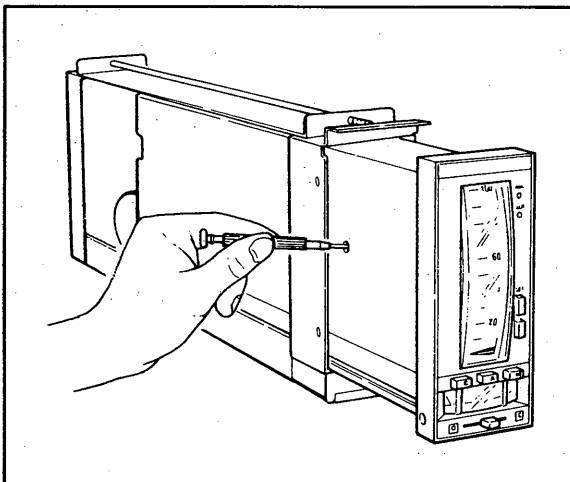

Figure 6-1. Zero Adjustment of Measurement Value Indicator.
- (1) Apply a voltage of 3.0 VDC to process variable input terminals (terminals 1 (+) and 2 (-)) from the DC voltage/current standard.
- (2) Check that the measurement pointer indicates the 50% calibration mark on the scale plate $\pm 0.5\%$.
- (3) If the reading is not in this range, adjust the zero point adjustment screw to the 50% point, as shown in Figure 6-1.
- (4) Change the input signal to 1.0 V, 2.0 V, 4.0 V, and 5.0 V, and check that the readings are 0%, 25%, 75%, and 100% accordingly on the calibration marks. The tolerance is $\pm 0.5\%$ of span.